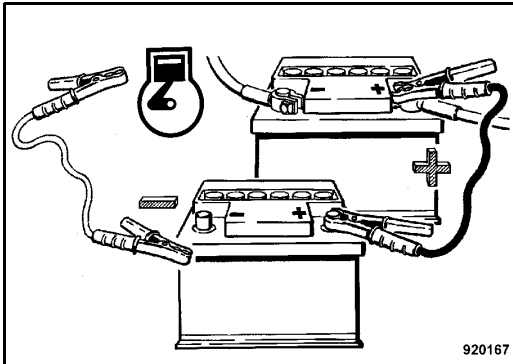

Fig. 61
- Then connect the ground cable first to the minus pole of the current supplying battery and then to engine or chassis ground, as far away from the battery as possible (Fig. 61).